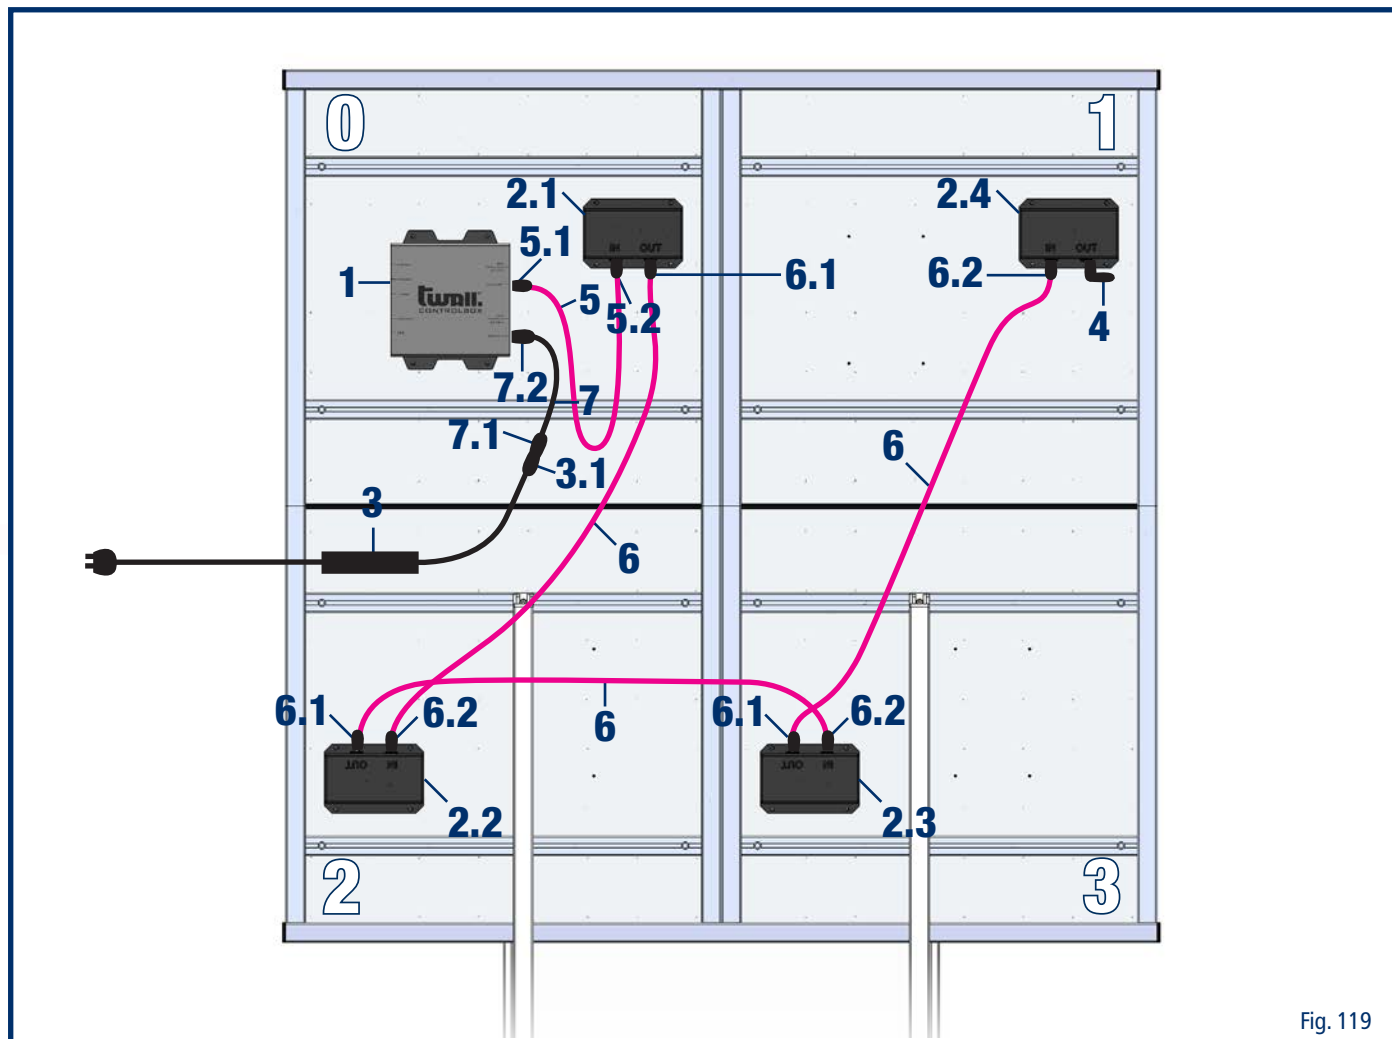

Fig. 119
The following section explains how to route the power cables for the twall® A64 (mobile version). See Fig. 119.
- Connect the 3-pin socket (3.1) to the 3-pin plug (7.1) of the extension cable (7).
- 1x extension cable, power adapter (7) with 3-pin XLR plug (7.1) and 3-pin XLR socket (7.2)
- Connect the 3-pin socket (7.2) to the **POWER IN** input of the control box (1).
- 1x terminator (4)
- 1x power CAN cable (5) with XLR plug, 4-pin (5.1) and XLR socket, 4-pin (5.2)
- Connect the plug (5.1) to the control box (1), **TWALL OUT** output.
- 3x power CAN cable (6) with XLR plug, 4-pin (6.1) and XLR socket, 4-pin (6.2)
- See Fig. 119 for the recommended power CAN cable sequence.